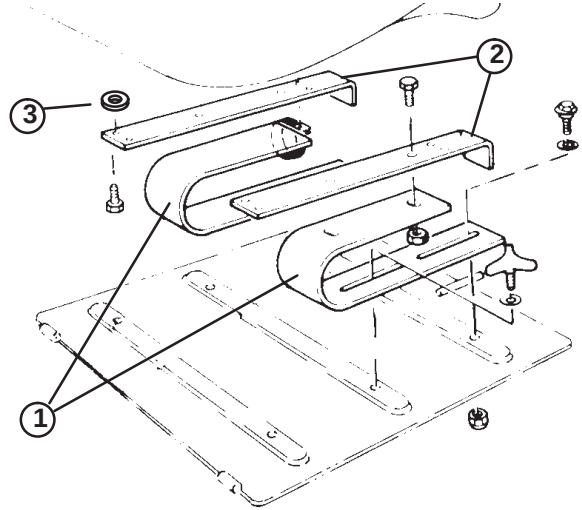

Figure 3
1. Attach “U” springs to seat mounting brackets with (4) capscrews and flange nuts as shown in figure 3.
2. Secure seat mount assemblies to bottom of seat with (4) flange head capscrews and (4) spacers (Fig. 3). Spacers to be positioned between seat and seat mount.
- 5. Mount seat and spring assembly to rear holes in seat mounting plate with two shoulder bolts, small I.D. flat washers and locknuts (Fig. 3 & 6).
- 6. Secure front slot of seat springs to traction unit front mounting holes with adjustment handles and flatwashers (Fig. 3 & 5).